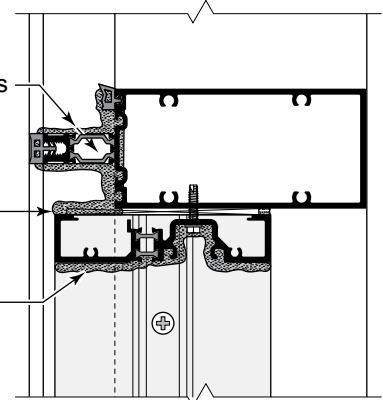

Fig. 58.3
- o Seal the top of the jamb sub frame as shown in **Fig. 58.3**.